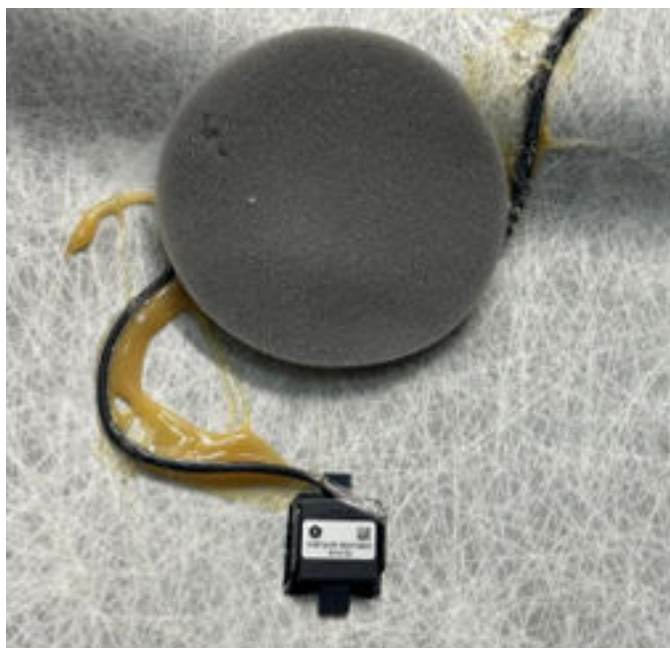

Fig. 5
5. Inspect the foam pad to verify the microphone harness connector foam pad is positioned behind the microphone Fig. 5.
6. Is the harness connector foam pad positioned behind the microphone Fig. 5?
7. Carefully remove the foam pad from the microphone connector and headliner, and relocate the foam pad to behind the microphone Fig. 5.